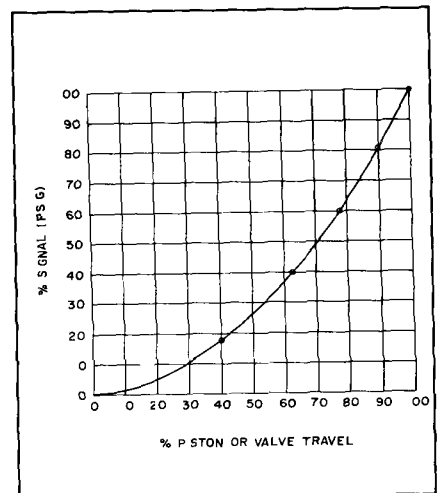

FIGURE 17 Cam Characteristic
- 3 Using values determined in steps 1 and 2, plot a curve to determine exact control signal pressure versus piston (or valve) position characteristic (Figure 17).